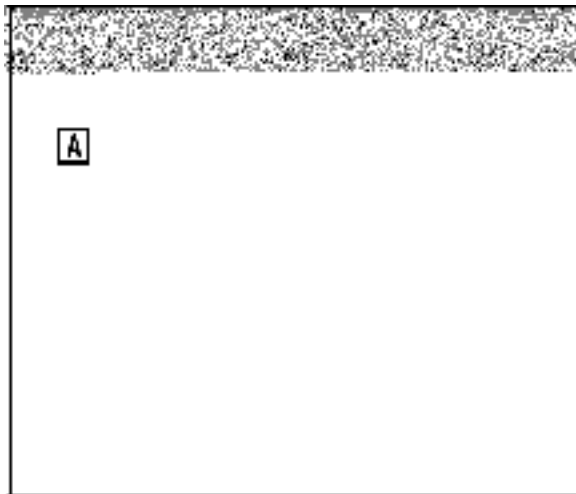

Fig. 99
Remove the pilot jet (A) with Screwdriver # 19062, Fig. 99.